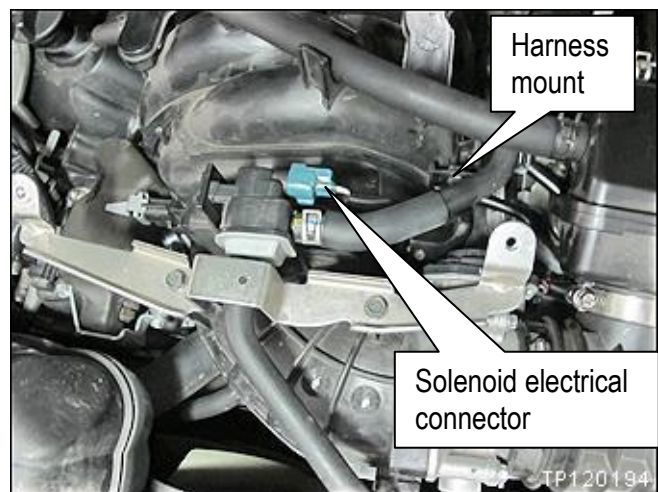

Figure 3
7. Disconnect EVAP solenoid electrical connector (see Figure 3).